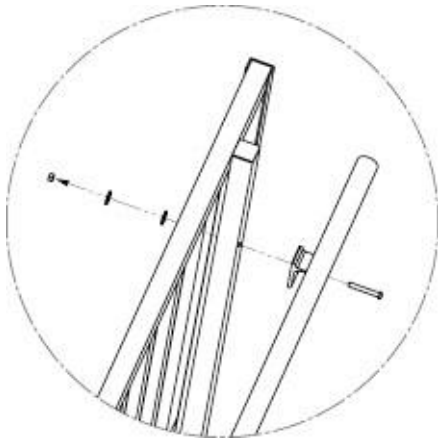

FIG. 37
- 7.1.1 Starting at the lower end of ramp system, attach first handrail section by aligning holes in the handrail brackets with the holes in the guard vertical posts. Secure with one 5/16"-18 x 2 1/4" button head socket cap screw, washer and nylon insert lock nut as shown in FIG. 37 but do not tighten fully.